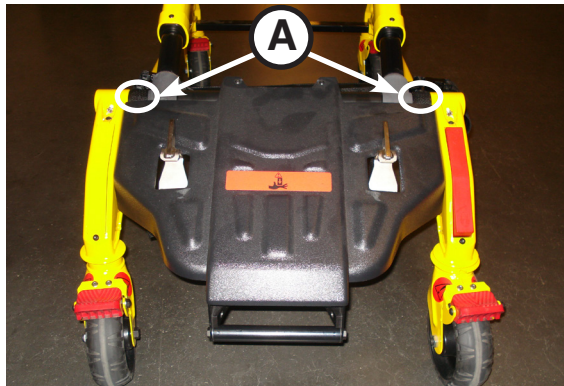

Figure 28.3: Push Bar Storage Pouch
1. Connect the corresponding buckles to secure the pouch to the cot frame (A) as shown in Figure 28.3.